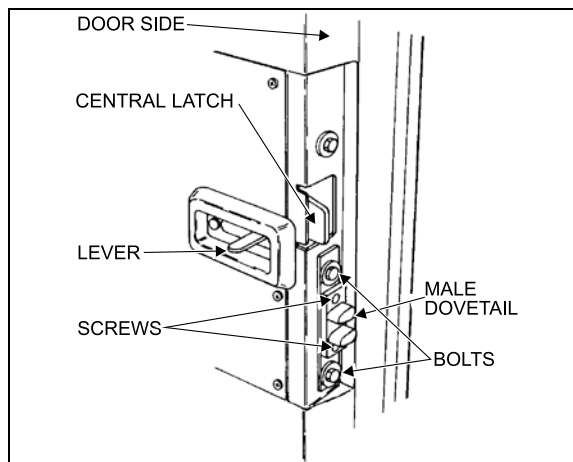

FIGURE 28: DOOR LATCH (COACH)
5. To adjust the male dovetail on L.H. side of the door, remove the two screws and loosen the two bolts. Slide the male dovetail toward the interior and loosely tighten the two bolts. Close the door slowly but firmly, then slowly open it and tighten the two bolts. Attach dovetail to the door with screws. See Figure 28.